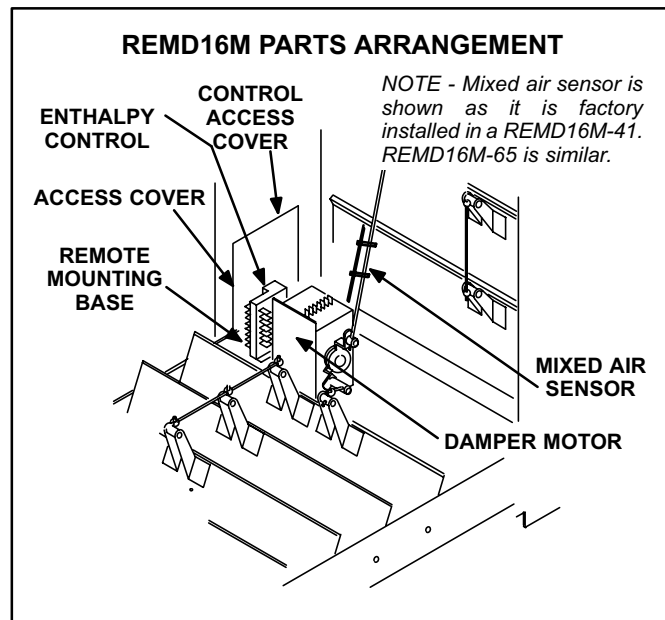

FIGURE 25
The physical location of controls in the REMD16M and REMD16 economizers is shown in figures 25 and 26.
- 2 -Remove the control access cover (see figures 25 and 26).